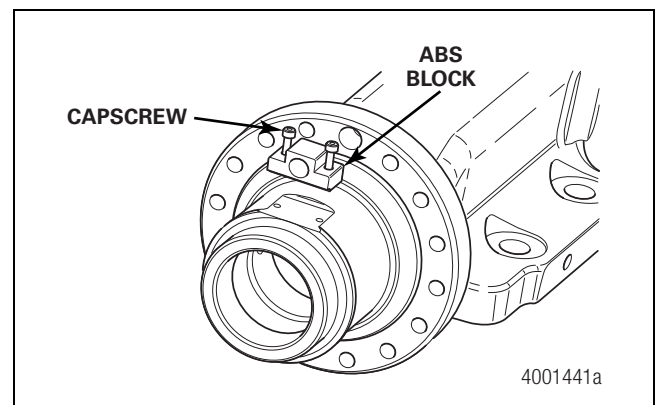

Figure 5.12
5. For cast housings, use M6x1 socket-head capscrews to secure the ABS sensor block to the housing. Tighten the capscrews to 8-12 lb-ft (11-16 N•m). Figure 5.12.